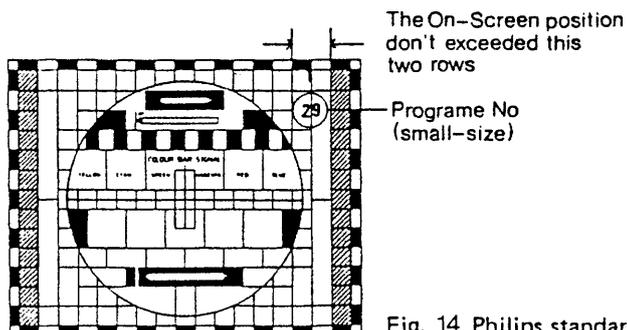

Fig. 14 Philips standard colour pattern
- (d) Adjust C 413 for the programme No "29" (small size) position as shown in Fig. 14